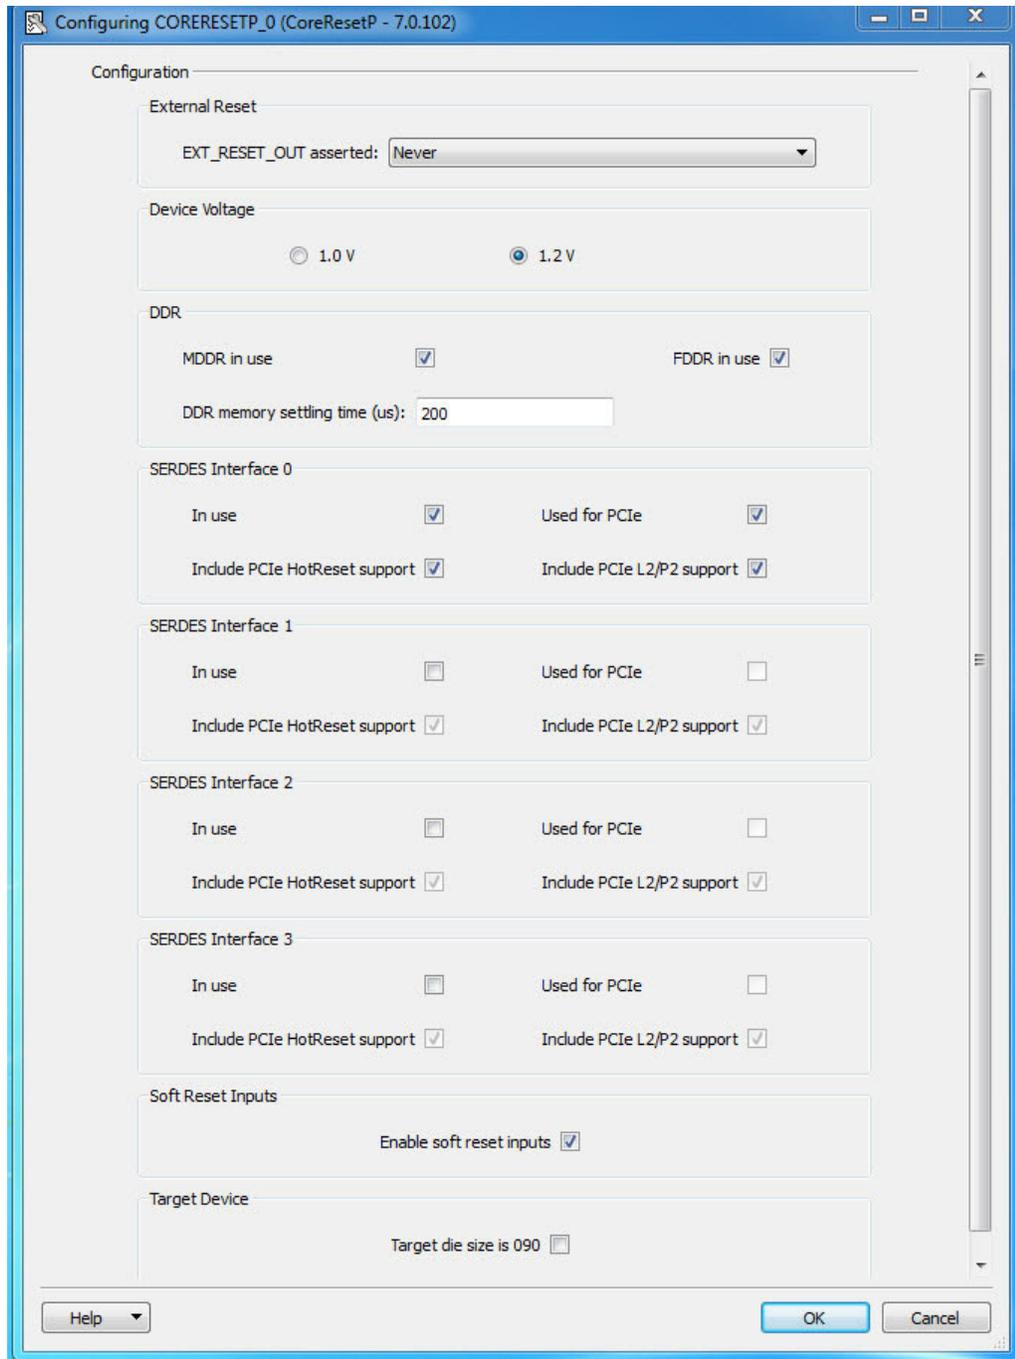

Figure 3-4 • CoreResetPConfigurator
2. Double-click the core inside the SmartDesign Canvas to open the Configurator (Figure 3-4).